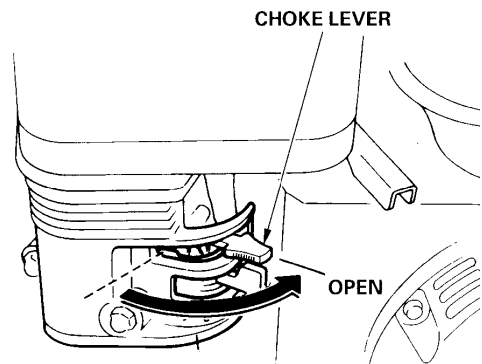

Figure 11. Engine Choke Lever (Open)
4. Place the ***choke lever*** (Figure 11) in the "OPEN" position if starting a ***warm engine*** or the ***temperature is warm***.
7. If the engine has started, slowly return the choke lever (Figure 11) to the **OPEN** position. If the engine has not started repeat steps 1 through 6.